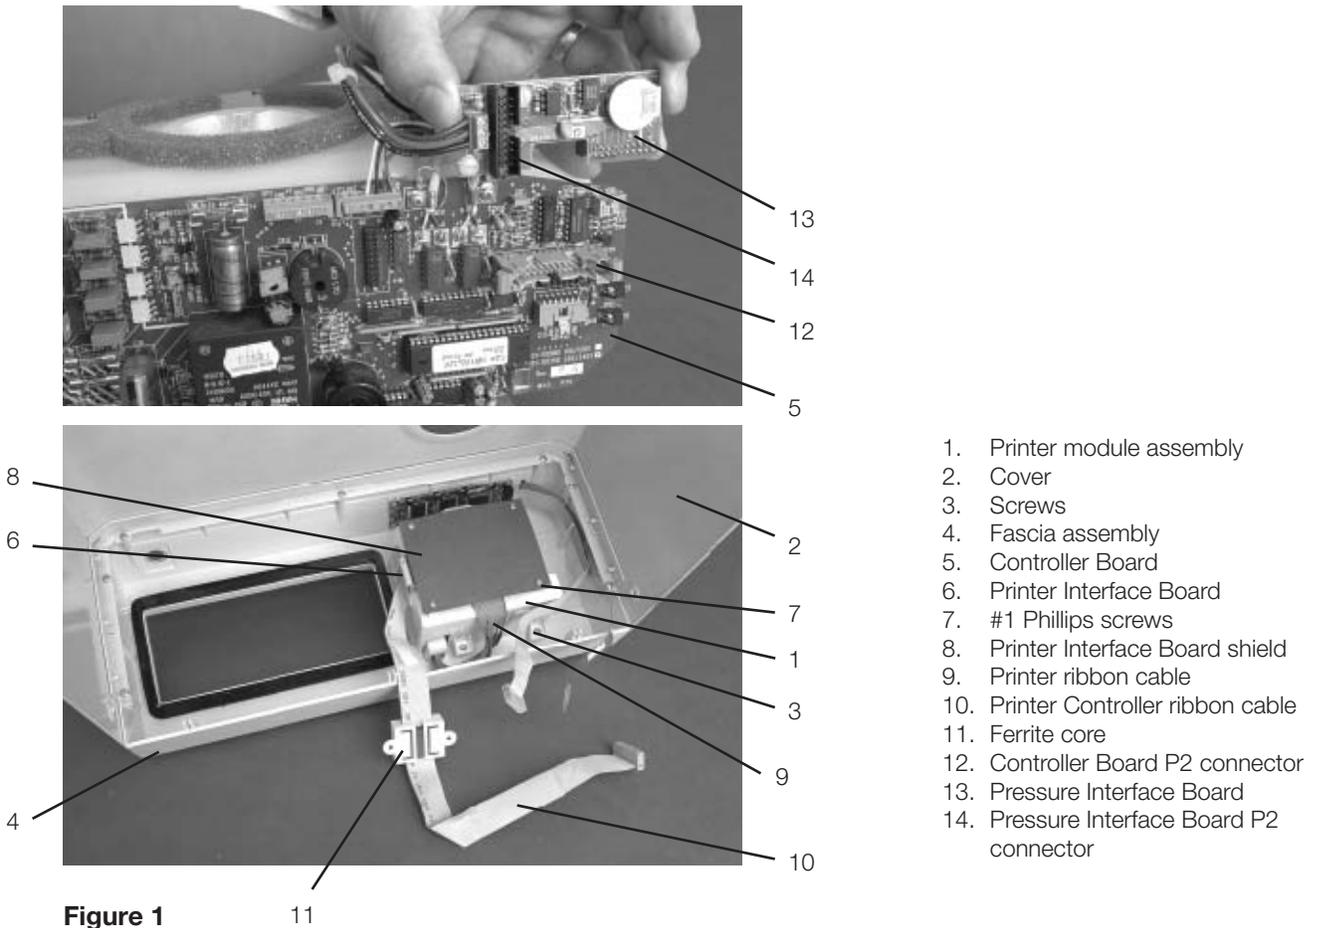

Figure 1
To remove the printer module assembly (1), proceed as follows (see Figure 1):
2. Place the cover (2) on a clean work surface to avoid scratching the cabinetry surface.
3. Remove the four screws (3) securing the printer module assembly to the fascia assembly (4). Retain the screws.
To replace the printer module (1), proceed as follows (see Figure 1):
1. Install the printer module assembly in the fascia assembly (4) using the four screws (3) retained during disassembly.
To remove the Printer Interface Board (6) from the module, proceed as follows (see Figure 1):
1. If detachable, disconnect the Printer Driver ribbon cable (9) and Printer Interface ribbon cable (10). See Printer Interface Board: Important Notes.
2. Remove the four screws (7) from the Printer Interface Board. Retain the screws.
3. Remove and retain the Printer Interface Board and the Printer Interface Board shield (8). There may be four nylon spacers (not shown) between the board and the stand-offs. See; "Printer Interface Board: Important Notes."
To replace the Printer Interface Board, proceed as follows (see Figure 1):